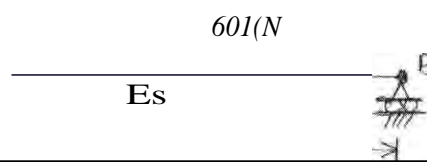

Fig.Q3(b)
- b. Calculate the deflection at point C and slope at point A for the beam loaded as shown in Fig.Q3(b) by moment area method. (07 Marks)